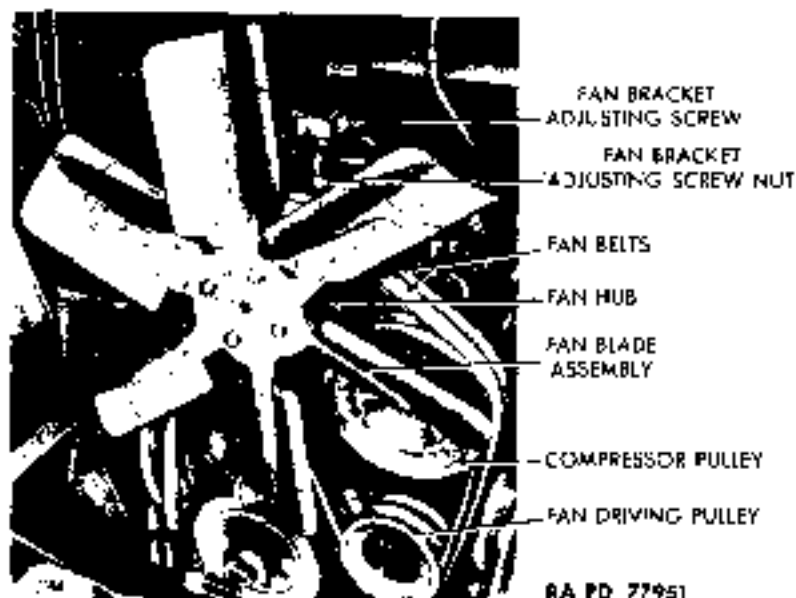

Figure 42 -- Fan and Belts Installed
(1) DESCRIPTION (fig. 42). The fan is the roller-bearing type mounted on a bracket at front of engine and belt driven by a pulley on the engine accessory shaft.
(2) TABULATED DATA.
(4) REMOVE ENGINE FAN COVER ASSEMBLY. Remove five remaining bolts (with one lock washer, two flat washers, and one nut on each) that secure engine fan cover assembly to dash, and lift assembly out.
(5) REMOVE FAN BLADE ASSEMBLY (fig. 42). Remove four cap screws that secure fan blade assembly to fan hub. Lower fan blades through space between radiator and motor. Take off gasket.
(6) REMOVE FAN HUB AND PULLEY. Loosen fan bracket clamp nut. Loosen fan adjusting screw lock nut. Turn fan adjusting screw to lower hub and pulley. Lift fan belts from pulley. Remove three hex cap screws and one slotted countersunk screw securing fan bracket to engine. Lift out fan hub and bracket.
(1) INSTALL FAN HUB AND PULLEY (fig. 42). Install fan hub and pulley by fastening bracket to engine with three hex screws and one slotted countersunk screw. Install fan belts.
(2) INSTALL FAN BLADE ASSEMBLY (fig. 42). Install fan blade assembly, using a new gasket, and secure assembly to hub with four hex screws. Turn fan adjusting screw to tighten fan belts until they have $\frac{1}{2}$ -inch play. Tighten fan adjusting screw lock nut. Tighten fan bracket clamp nut.
(3) INSTALL ENGINE FAN COVER ASSEMBLY. Place engine fan cover assembly in position, and secure to dash with five bolts (two flat washers, one lock washer and one nut on each). Leave out top left-hand bolt.
(1) **DESCRIPTION** (fig. 42). Two V-type fan belts are mounted on grooved pulleys connected to fan, air compressor, and accessory drive shaft, and drive the fan and air compressor. Belts are rubber and fabric composition.
b. **Adjustment** (fig. 42). Loosen fan bracket adjusting screw nut and fan spindle jam nut. Turn fan bracket adjusting screw clockwise to tighten, counterclockwise to loosen. Deflection permissible is between 1/2 inch and 3/4 inch. After adjustment is made, tighten bracket adjusting screw nut and spindle jam nut.
c. **Removal** (fig. 42). Loosen bracket adjusting screw nut and spindle jam nut, and turn adjusting screw to force spindle down. Lift belts from pulleys.
d. **Installation** (fig. 42). Position belts on pulleys. Turn adjusting screw until belts can be flexed from 1/2 inch to 3/4 inch at mid-position when pressed with fingers. Tighten adjusting screw nut and spindle jam nut.